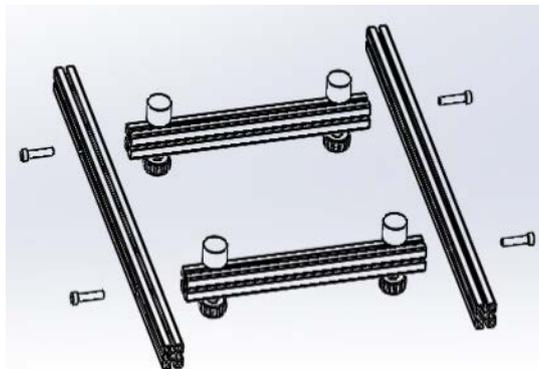

Fig. 2
3. Screw these parts together with the 4x M8x40 screws using the hexagon wrench key from the bag in a way the resulting frame is plane and flat. (See fig. 2)